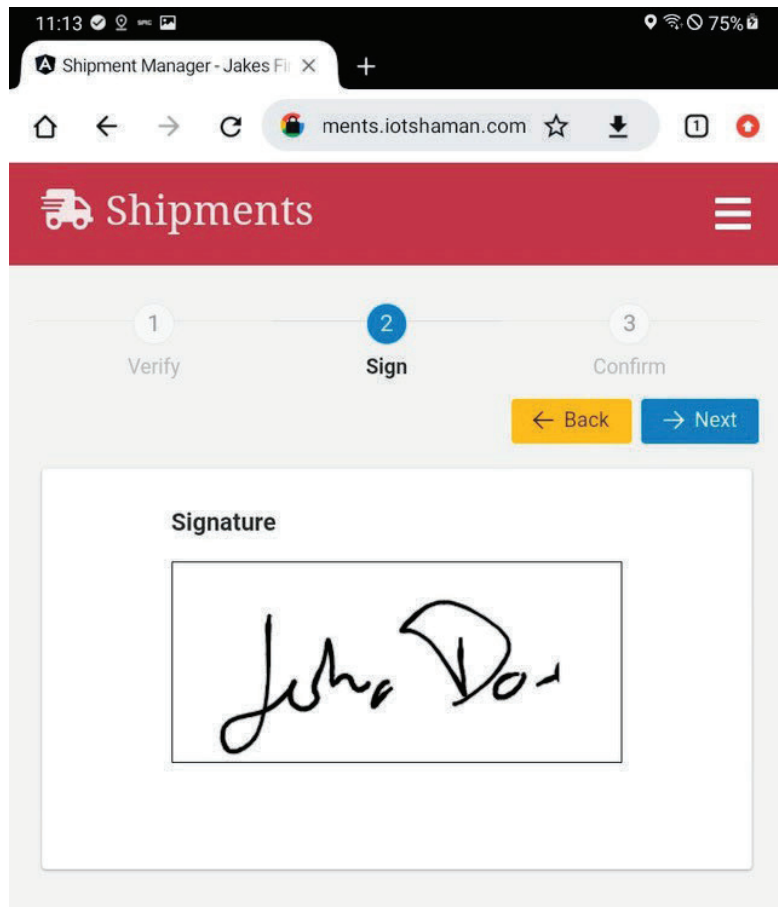

Figure 19
- c. Sign in the Signature Box, then click NEXT (Figure 19).